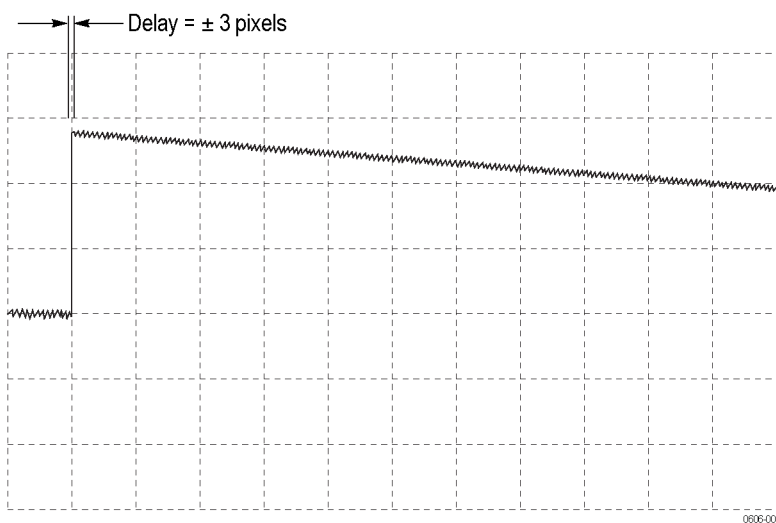

Figure 7: Allowable variance in time base
8. Examine the rising edge of the time marker pulse at the height of the trigger level indicator top. (You may need to adjust the horizontal position to view the pulse edge.) Verify that the rising edge is at the second grid line from the left. The allowed deviation is ± 3 pixels. (See Figure 7 on page 14.)
14. Examine the rising edge of the time marker pulse at the height of the trigger level indicator top. (You may need to adjust the horizontal position to view the pulse edge.) Verify that the rising edge is at the second grid line from the left. The allowed deviation is ± 3 pixels. (See Figure 7.)